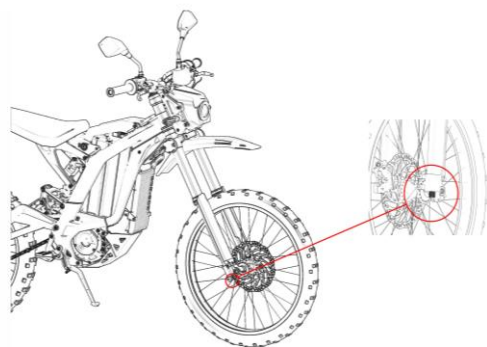

Fig 6
6.1 Adjust compression damping of front shock absorber (see Fig 6)